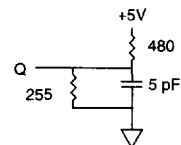

Fig. 2 OUTPUT LOAD EQUIVALENT
6. t'_{LZCE}, t'_{LZOE}, t'_{LZWE}, t'_{HZCE}, t'_{HZOE} and t'_{HZWE} are specified with CL = 5 pF as in Fig. 2. Transition is measured ± 200mV typical from steady state voltage, allowing for actual tester RC time constant.